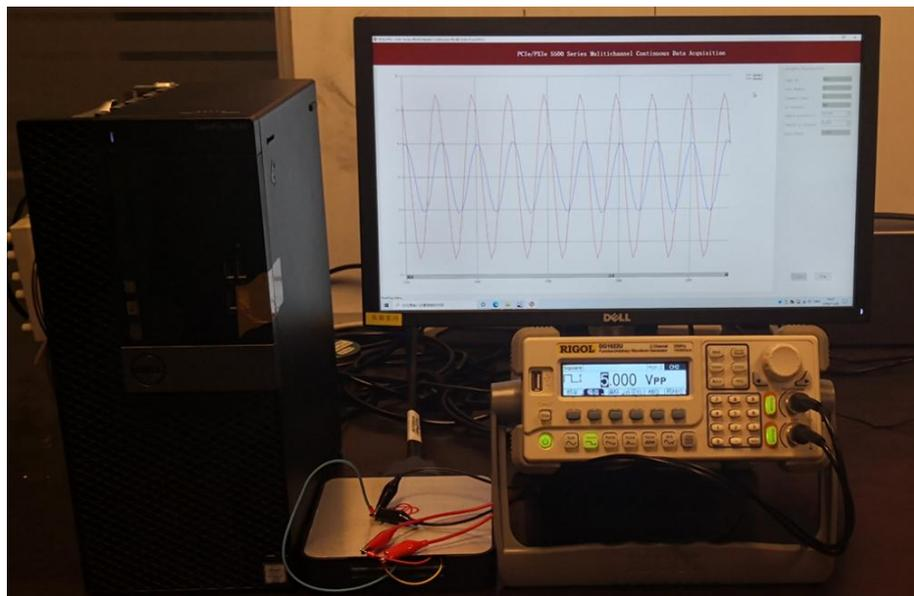
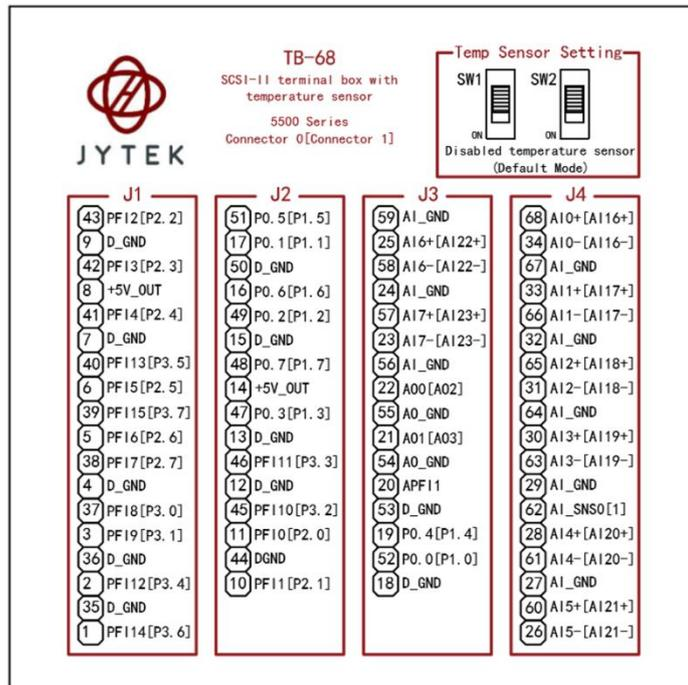

Figure 3 PCIe-5111 experiment
Figure 4 TB-68 Terminal Block
- Connect the two signal source's positive outputs to PCIe-5111 AI Ch0 (AI0+, Pin #68) and AI Ch1 (AI1+, Pin#33), two negative terminals to the ground (AI\_GND, Pin#67) as shown in Figure 3 and Figure 4 (AI0+, AI\_GND) and (AI1+, AI\_GND) consist of two channels of RSE inputs and they share the same GND.
- Connect the two signal source's positive outputs to PCIe-5111 AI Ch0 (AI0+, Pin #68) and AI Ch1 (AI1+, Pin#33), two negative terminals to AI Ch0 negative (AI0-, Pin#34) and AI Ch1 negative (AI1-, Pin#66) as shown in Figure 3 and Figure 4. (AI0+, AI0-) and (AI1+, AI1-) consist of two pairs of DIFF inputs;
- This Example needs two TB-68 terminal blocks, Connector0 and Connector1 and two cables, which are connected to PCIe-5111. Connect the two signal source's positive outputs to PCIe-5111 AI Ch0 (AI0+, Pin #68) and AI Ch1 (AI1+, Pin#33), two negative terminals to AI\_SENSE 0 (Pin#62) of the first TB-68 and AI\_SENSE 1 (Pin#62) of the second TB-68 as shown in Figure 3 and Figure 4. (AI0+, AI\_SENSE 0) and (AI1+, AI\_SENSE 1) consist of two channels of NRSE inputs.
- Connect the signal source's positive terminal to PCIe-5111 AI Ch0 (AI0+, Pin#68), the negative terminal to the ground (AI\_GND, Pin#67) as shown in Figure 3 and Figure 4. (AI0+, AI\_GND) consists of a RSE input.